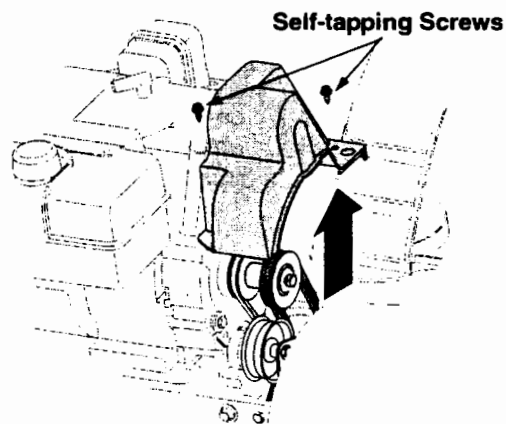

Figure 23
- Remove belt cover by removing the two self-tapping screws that secure it to the snow thrower housing. See Figure 23.
- Remove belt cover by removing the two self-tapping screws that secure it to the snow thrower frame. See Figure 23.